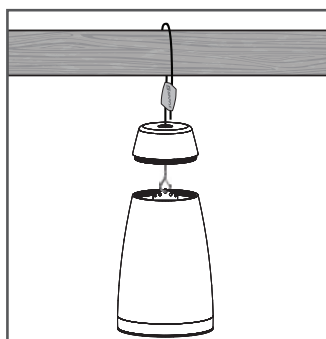

FIGURE 7: MAIN SUPPORT
4. With speaker supported, snap main support hook hanger onto the center hole in the top bracket of the speaker. Adjust to proper height by pulling down on either end of Gripper. (See figure 7).